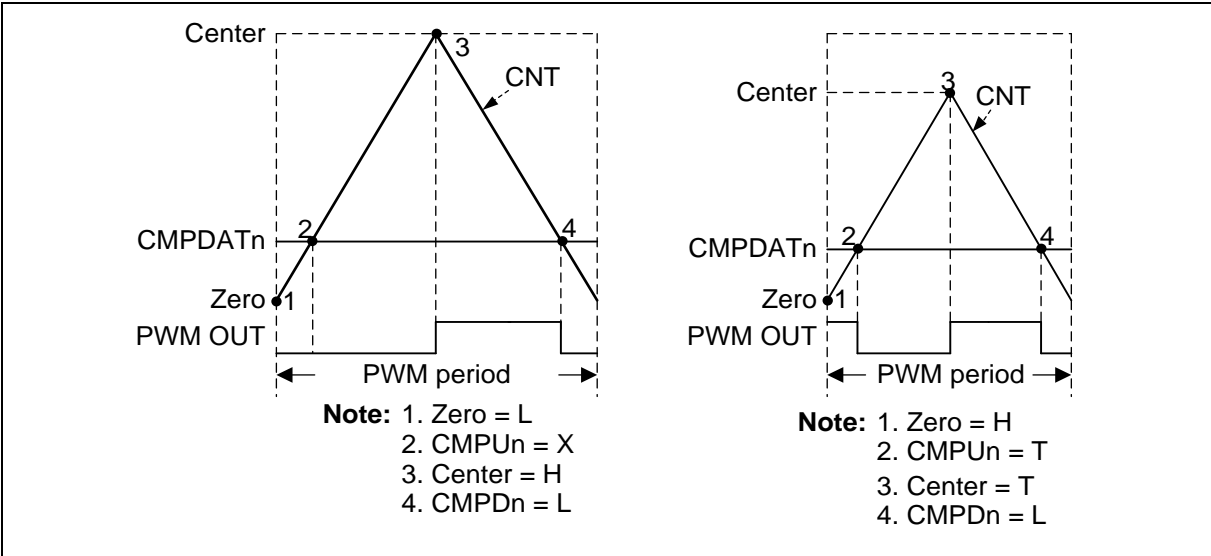

Figure 6.11-14 BPWM Pulse Generation (Left: Asymmetric Pulse, Right: Variety Pulse)
Each event point can decide BPWM waveform to do nothing (X), set Low (L), set High (H) or toggle (T) by setting BPWM\_WGCTL0 and BPWM\_WGCTL1 registers. Using these points can easily generate asymmetric BPWM pulse or variant waveform as shown in Figure 6.11-14. In the figure, there is a comparator  $n$  to generate BPWM pulse, where  $n$  denotes channel number 0 to 5. CMPU denotes CNT is equal to CMPDAT when counting up, and CMPD denotes CNT is equal to CMPDAT when counting down.